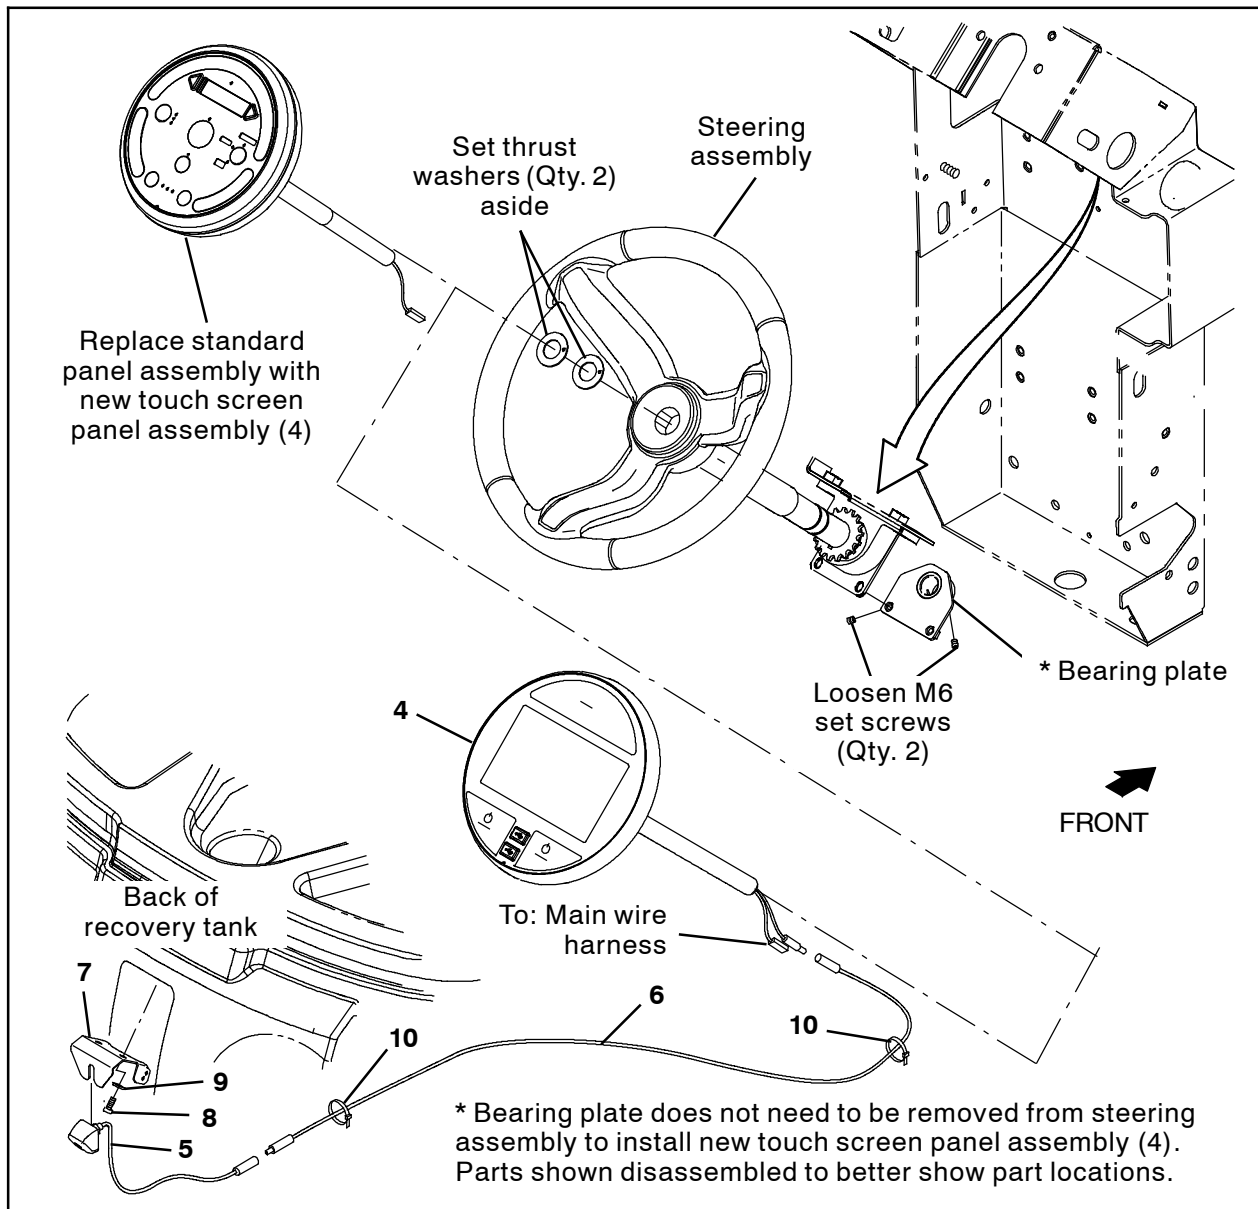

FIG. 4
5. Disconnect the main wire harness from the standard panel assembly. (Fig. 4)
6. Loosen both M6 set screws securing the standard panel assembly inside the bearing plate. (Fig. 4)
7. Remove the standard panel assembly from the steering assembly. Set both thrust washers aside. Discard the removed standard panel assembly. (Fig. 4)
8. Slide the thrust washers onto the shaft of the new touch screen panel assembly (4). (Fig. 4)
9. Insert the touch screen panel assembly (4) into the steering assembly. (Fig. 4)
10. Position the touch screen panel assembly (4) in the steering assembly and tighten both M6 set screws to secure the touch screen panel into place in the bearing plate. (Fig. 4)
11. Connect the main wire harness to the touch screen panel assembly (4). (Fig. 4)
12. Loosen nut on the camera (5) and install the camera onto the camera bracket (7). (Fig. 4)
13. Use two pan screws (8) and two flat washers (9) to install the camera (5) / camera bracket (7) onto the recovery tank. (Fig. 4)
14. Connect the camera cable (6) to the camera (5). (Fig. 4)
15. **Machines not already equipped with rear camera cable only:** Route the camera cable (6) through the channel located in the back of the recovery tank and into the battery compartment. If necessary, move or remove the vacuum hose to have better access to channel.
16. **Machines not already equipped with rear camera cable only:** Continue routing the camera cable (6) down the back of the battery compartment, around the frame of the machine to the main wire harness, along the main the wire harness, and to the touch screen panel assembly (4).
17. Connect the camera cable (6) to the touch screen panel assembly (4). (Fig. 4)
18. **Machines not already equipped with rear camera cable only:** Use cable ties (10) to secure the camera cable (6) to the machine and away from moving parts or areas where the cable could be damaged. (Fig. 4)